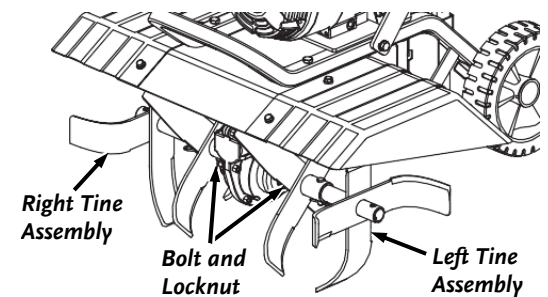

Figure 21
1. Remove the Bolt and Locknut securing the Tine Assemblies to the Shafts on both sides using two 16mm Wrenches (**Figure 21**).